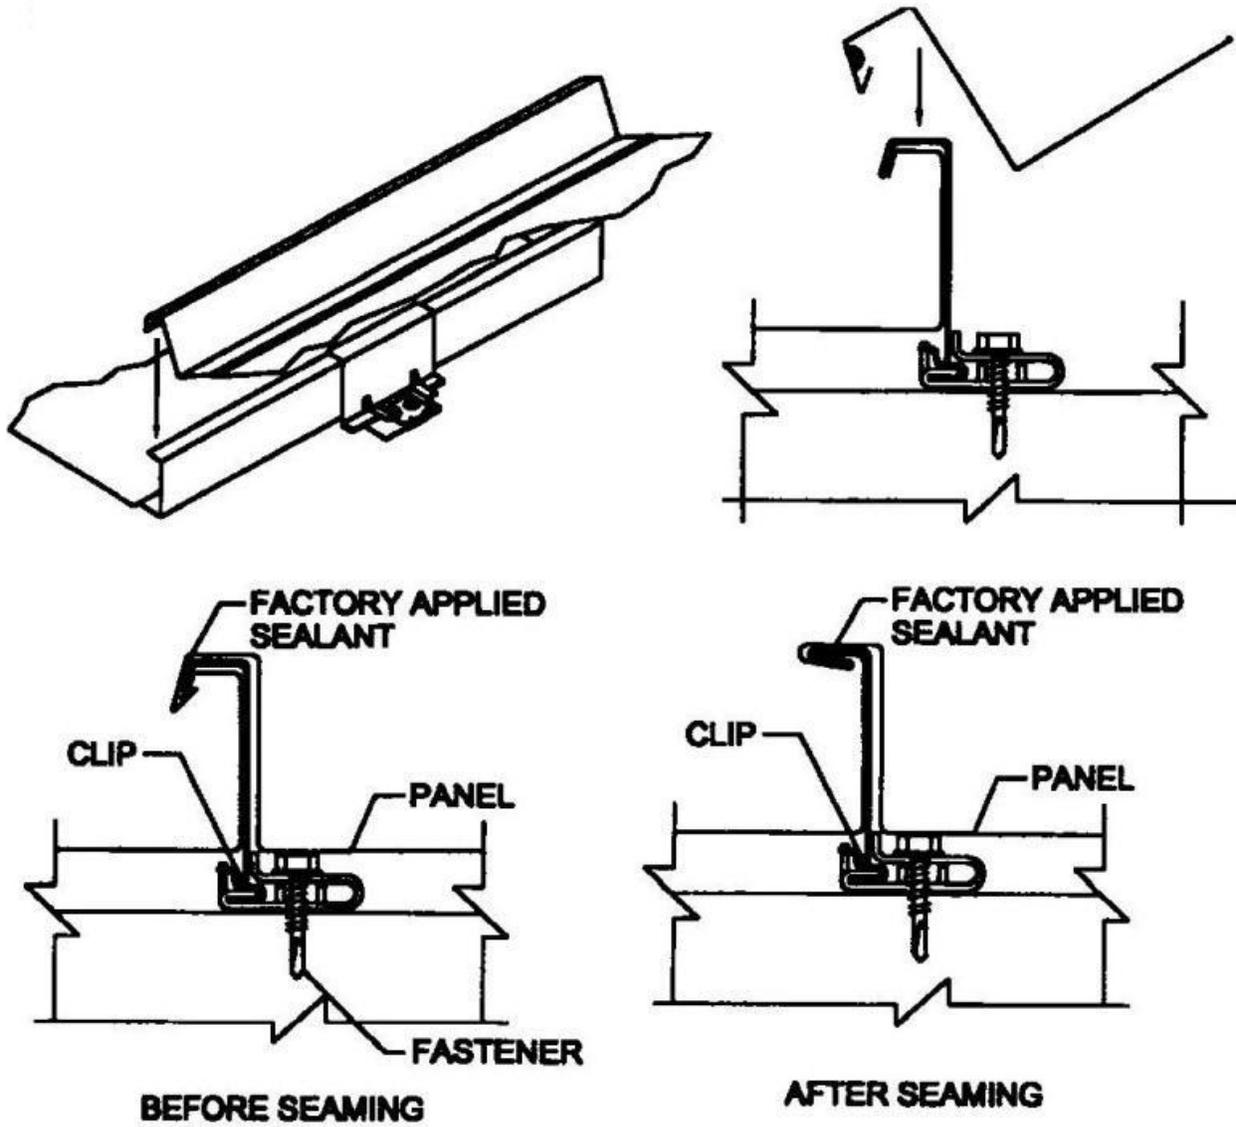

Figure 1: Rock-Lok Lap Detail
Attachment of Panels to Wood Deck: The metal panels are secured to the roof deck with 3 1/2" wide x 2" high, 22 gauge steel panel clips. The panel clips are located at 4" from each end of the panel and spaced in accordance with the clip spacing in Table 1. The clips are secured to the wood deck with two (2) No. 10 x 1" pancake head screws. Refer to Figure 1 for lap detail.